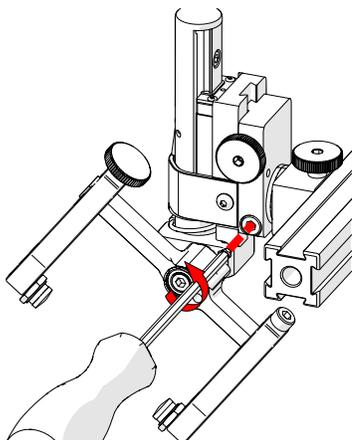

Fig. 136 - Loosen 3 mm screw
2. Using the supplied 3 mm hex driver (*Fig. 42*), loosen the longitudinal adjustment screw (*Fig. 136*).